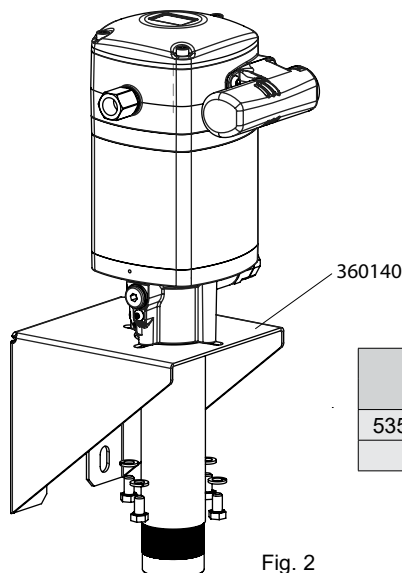

Fig. 2
- Wall mounting with screws. Insert the pump through the wall bracket 360140 and fix it with 4xM8 screws (Fig. 2).